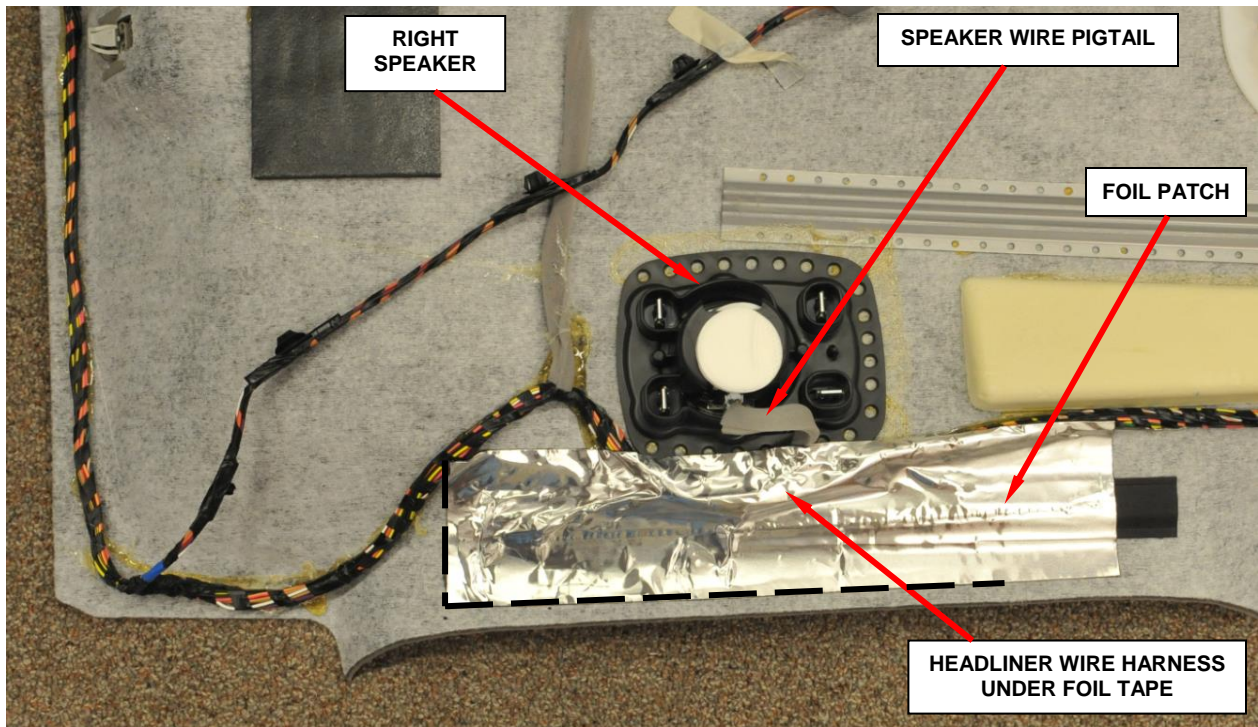

Figure 32 – Foil Patch Installed (Right Side Shown)
4. Install the foil patch to the headliner using the markings as a guideline and smooth the foil patch edges (Figure 32).
NOTE: Assure the speaker wire pigtail is not positioned under the foil patch. See Figure 32 for proper speaker wire orientation.